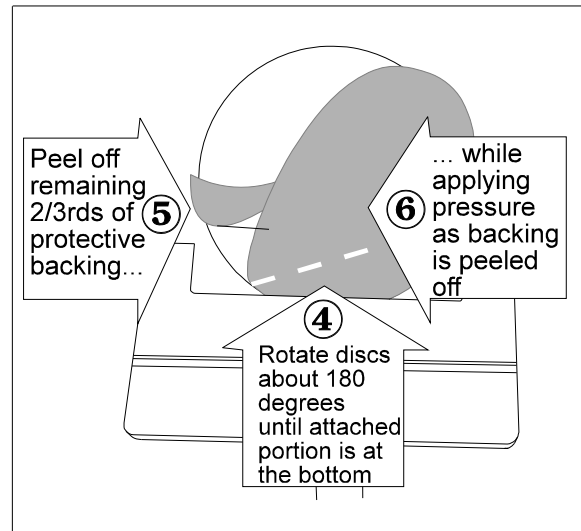

Figure 13: Replacing a grinding disc
9. Rotate the drive disc 180 degrees. See Figure 13. The